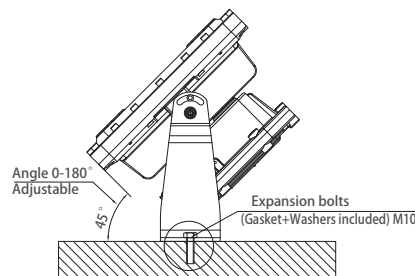

Fig. 3
11. The luminaire can be adjusted up and down by 45° on wall/floor position only. (Figure 3).